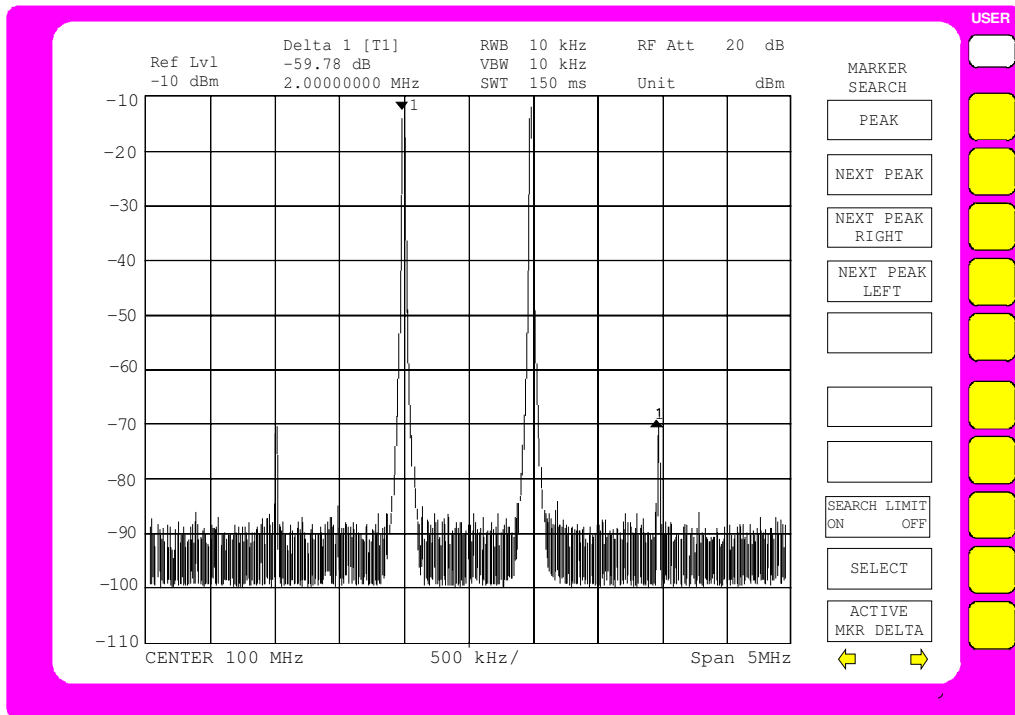

Fig.2-13 Measuring diagram in low distortion mode
The FSE shows the measuring diagram in Fig.2-13
If the amplitude of the IM products doesn't change, the existing setting is sufficient (see Fig.2-13)
- Move the marker to an intermodulation product using the roll-key (see Fig.2-13).
- Press the *NEXT PEAK RIGHT* softkey until the delta marker appears on one of the IM products (see Fig.2-13).
**8. Calculate IP3 from the measured offset and the signal level according to (4)**